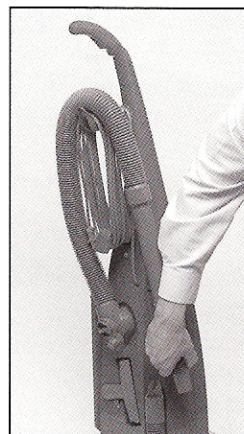
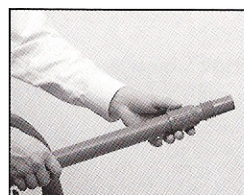

Fig. 27
Fig. 28
1. Remove the telescopic wand from the body of the vacuum [Fig. 27]. Unlock wand collar (located on end of wand) [Fig. 28], extend wand and re-lock the wand collar.